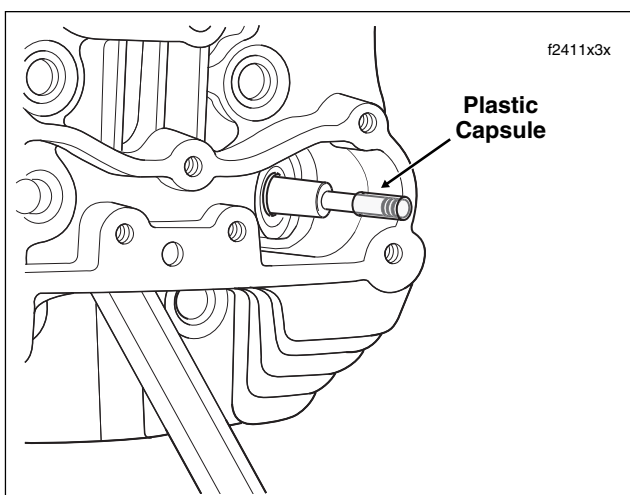

Figure 3-81. Lubricate Plastic Capsule
7. Push on bottom of valve until it contacts the valve seat. Placing finger at bottom of valve to keep valve seated, slide plastic capsule over valve stem tip and keeper groove. See Figure 3-81.